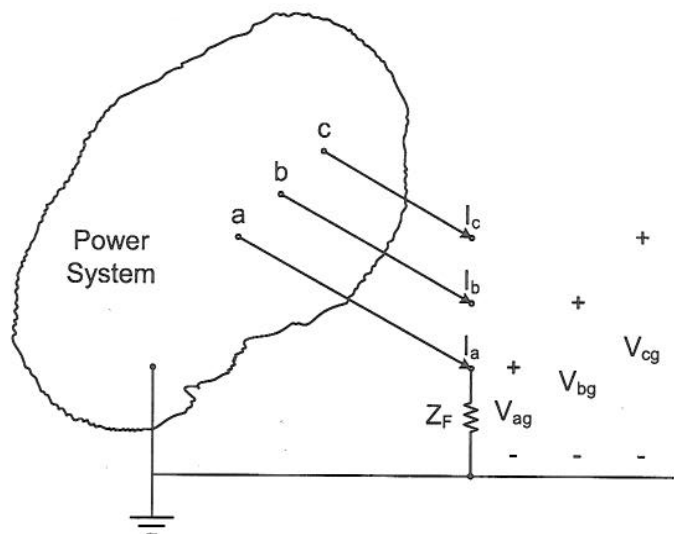

Figure 6.1: Schematic representation of a faulted system
- (c) Figure 6.1 shows a schematic representation of a faulted power system. A single line to ground fault through a fault impedance of  $Z_F$  occurs at *phase 'a'*. Apply the method of *symmetrical components* to show that the three sequence networks need to be connected in series at the fault point to compute the fault current. [6]